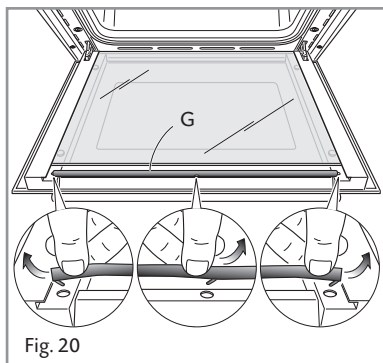

Fig. 20
- Remove the seal **G** by unhooking the no. 3 fixing hooks (fig. 20).